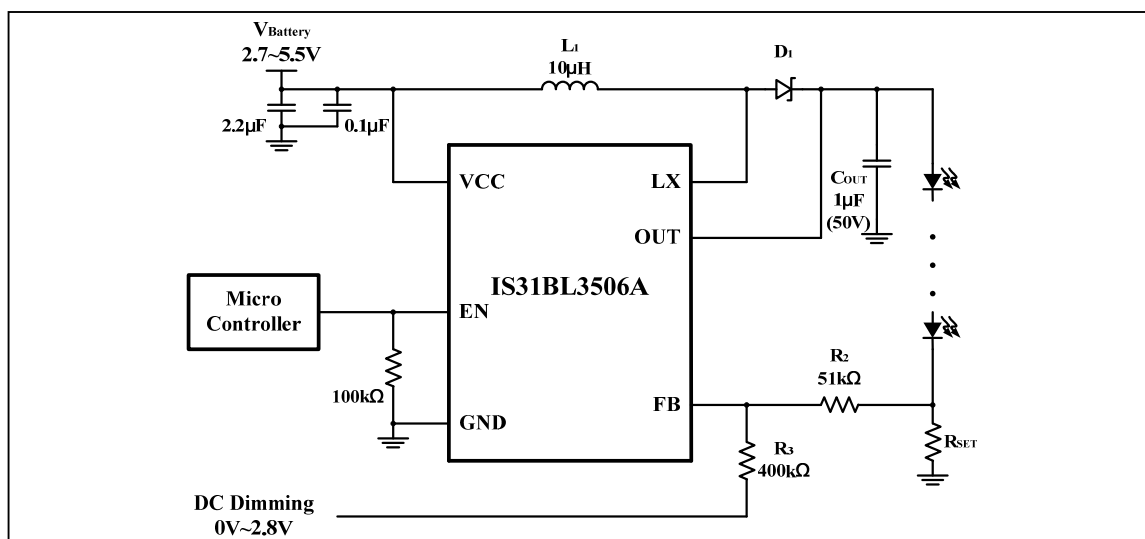

Figure 4 Constant output current with DC dimming input
The schematic of Figure 4 show an example of using a DC input voltage at the FB pin to implement LED dimming. When the DC input voltage increases, the current through R_2 and R_3 increases producing an offset voltage across R_2 , thereby causing the LED current to be reduced. The LED current may be computed using the following equation, (3). V_{FB} is 0.3V (typ).